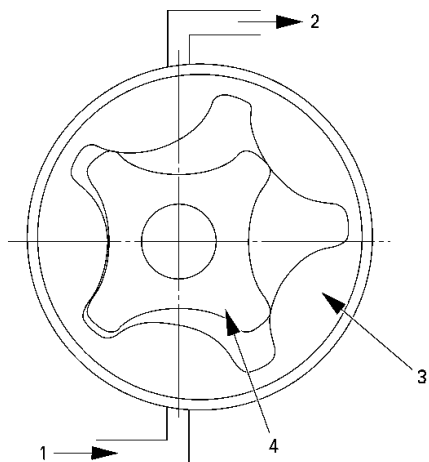

Figure 35 Fuel Supply Pump (Courtesy of Robert Bosch Corporation)
Fuel flows from the tank through the FICM (Fuel Injection Control Module) and then the fuel filter to the injection pump. The fuel supply pump is built into the high-pressure pump to pump fuel up and supply fuel through fuel filter into the high-pressure pump unit. No separate lift pump is used on the Duramax. The supply pump inside rotor (4) is driven by supply pump camshaft. When the inside rotor starts to rotate, the outside rotor also rotates together with inside rotor. The outside rotor (3) has one more tooth than the inside rotor, therefore, the inside rotor tooth slides on the face of the inside tooth in the outside rotor during rotation (Figure 35). The fuel hold clearance between the outside rotor and inside rotor tooth causes fuel to be pushed out of the discharge port (2).